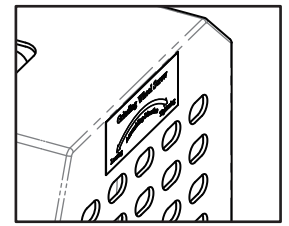

Fig. 13-1
① Unplug the power cord and make sure the power is off.
② Confirm the screw direction on the grinding wheel cover before changing the grinding wheel. (Fig. 13-1)